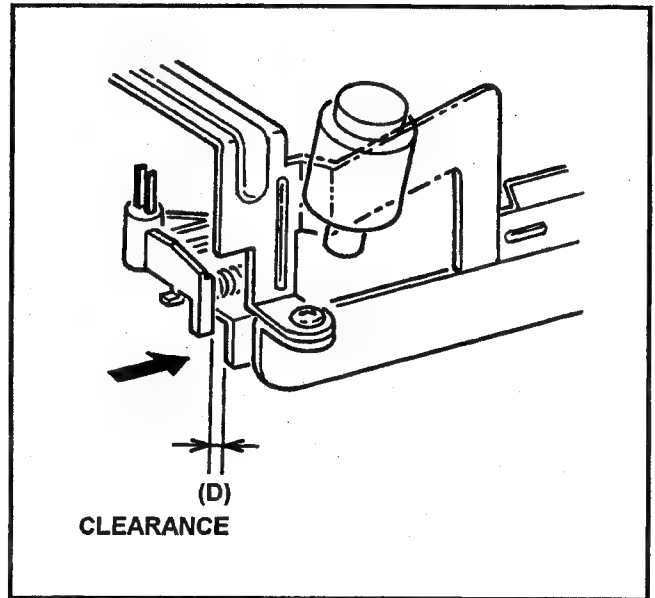

Fig. 6-15-2 Cleaner Solenoid Position Adjustment
2. Observe the clearance (D) between the Cleaning Arm Unit and the Cleaner Base Plate and make sure that it is within 0.5 to 0.7mm as shown in Fig. 6-15-2.
3. If not, loosen the 2 screws (A) and move the Cleaner Solenoid Unit to the arrow direction (C⇌C) by the Eccentric Driver so that the clearance (D) is within specification. Then tighten the 2 screws (A).